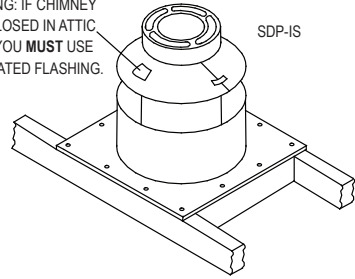

Figure 12
8. Install Attic Insulation Shield: Install the Attic Insulation Shield where the chimney passes into an attic. Its purpose is to prevent debris and insulation from getting too close to the chimney. (**Figure 12**). An installed Attic Insulation Shield is 14 inches high. In attic areas where this shield won't fit, a Square Support Box, (which is available in heights up to 36 inches), can be used instead of an Attic Insulation Shield, provided it reaches through the roof; **refer to the Roof Supported Installation section on page 14**. If the chimney is fully enclosed through the attic, an Insulation Shield is not required, however, again, Ventilated Flashing must be used.
d. Nail the Insulation Shield to the top of the framed opening with at least two 8-penny nails per side. (**Figure 12**).